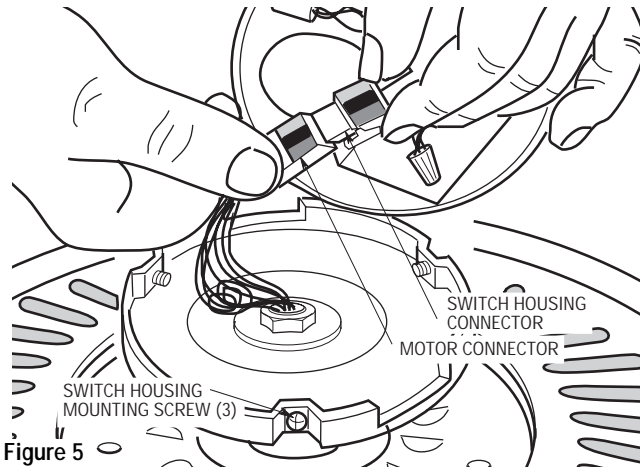

Figure 5
6. Engage the connector of the switch housing assembly with the motor connector (Figure 5). The two connectors are keyed and color-coded and must be mated correctly (color-to-color) before they can be engaged. Make sure the connector latch closes properly.
7. Remove the three switch housing mounting screws (Figure 5) from the switch housing plate. Position the switch housing assembly on the switch housing plate and align the holes in the switch